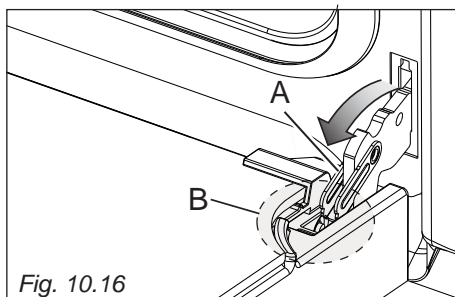

Fig. 10.16
- Open the lever "A" completely on the left and right hinges (fig. 10.16).